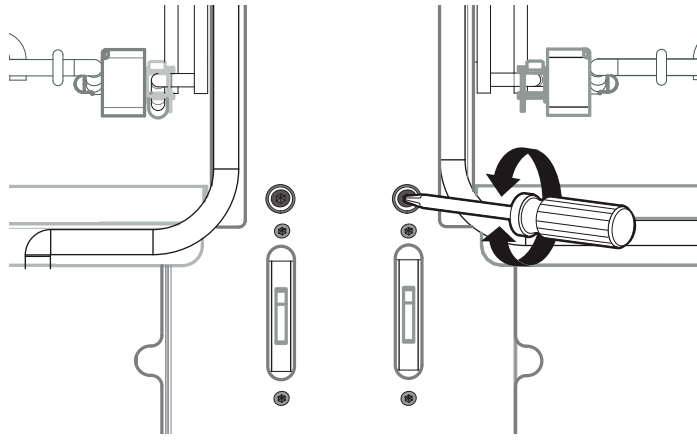

Figure 11: Hinge Receiver Adjustment Screw
4. For 48" models with large and small ovens, if door or handle appears slightly tilted, you may adjust the hinge receiver by rotating the large Torx-head screw located directly above the hinge receiver with a T-20 Torx driver. Rotate each screw respective to its side and direction the door needs to be adjusted (*Figure 11*).